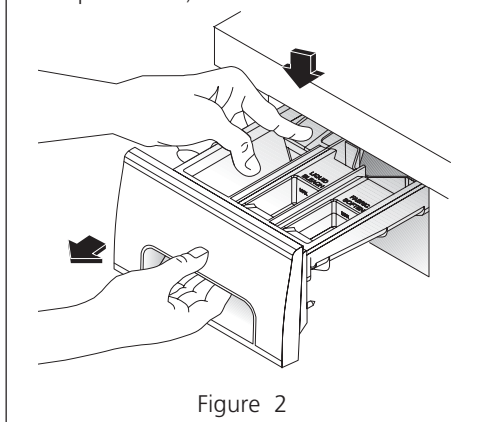

Figure 2
- Reach back into the left rear corner of the drawer cavity and press down firmly on the lock tab (left rear portion of the drawer). Pull out the drawer. (Figure 2)